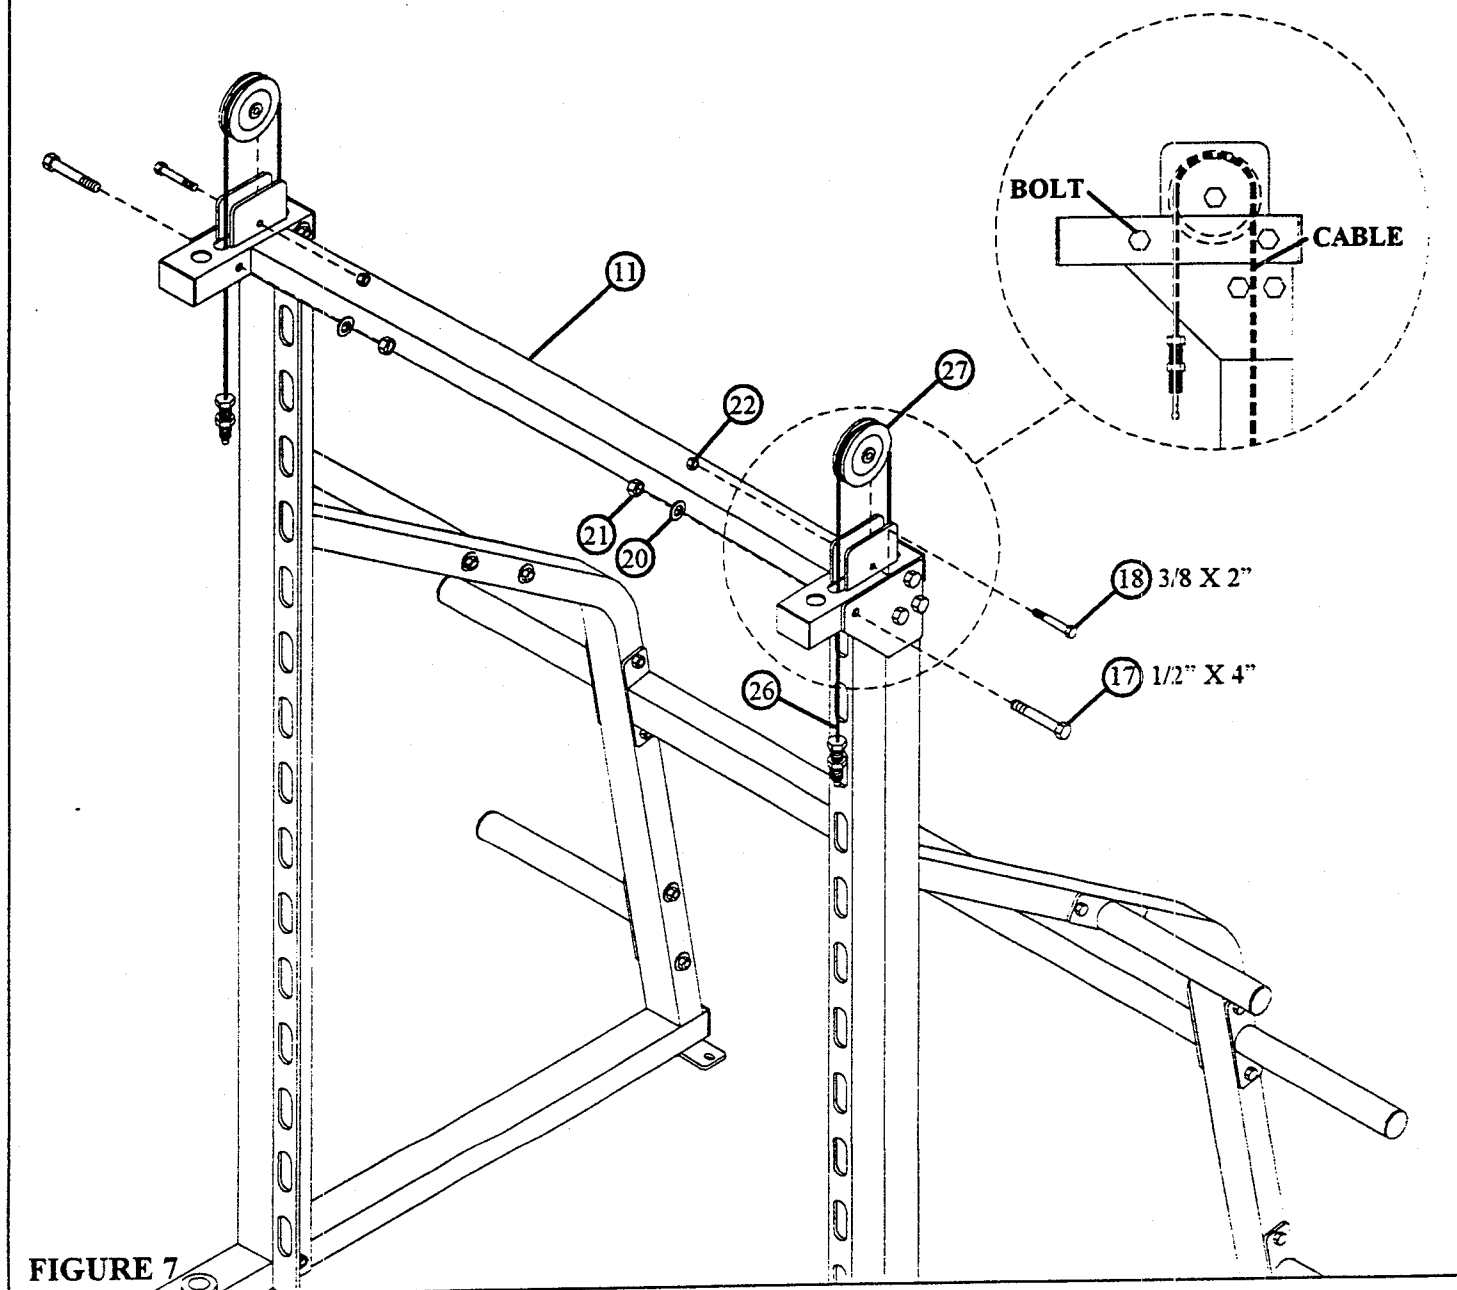

FIGURE 7
- Loop **CABLE ASSEMBLIES (26)** around the **4-1/2" PULLEYS (27)** and route **CABLE ASSEMBLY (26)** back through **UPPER SUPPORT (11)** as shown in **FIGURE 7**.
- **SECURELY** assemble the **4-1/2" PULLEYS (27)** to the **UPPER SUPPORT (11)** using two **3/8 X 2" BOLTS (18)** and two **3/8" LOCK NUTS (22)** as shown in **FIGURE 7**.
- Finish the assembly of the **UPPER SUPPORT (11)** to the **LEFT & RIGHT UPRIGHTS (9 & 10)** using two **1/2 X 4" BOLTS (17)**, two **1/2" WASHERS (20)**, and two **1/2" LOCK NUTS (21)** as shown in **FIGURE 7**. (**NOTE: MAKE SURE CABLE IS INSIDE OF THE 1/2" BOLT AS SHOWN IN DETAIL.**)